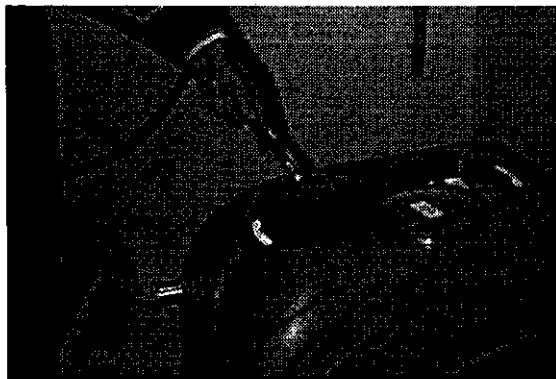

FIG. 1
2. Unscrew and remove solution tank lid. Using a hose or bucket, fill tank with 57L (15 gal) of hot water, 60°C (140°F) maximum (Figure 1).